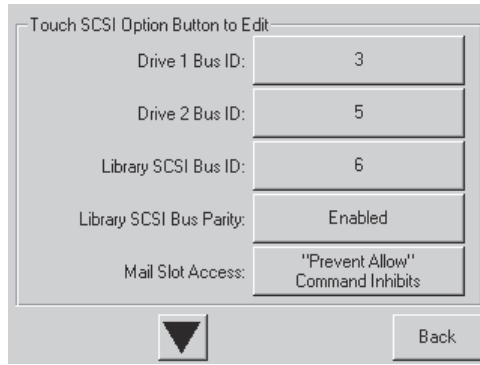

Figure 23. SCSI ID selection screen
4. Select **SCSI** in the Edit Options area to display the screen shown in Figure 23 on page 22.